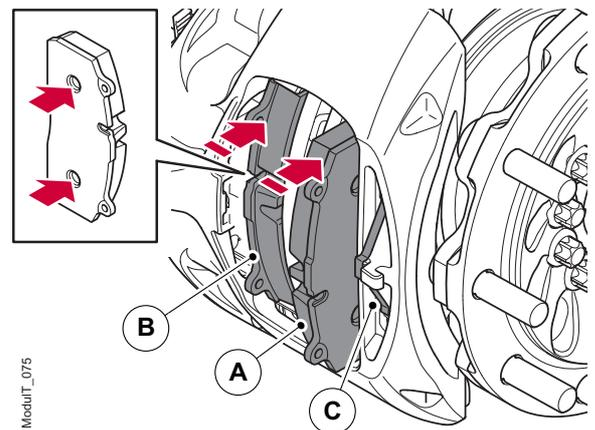

Figure 34. Install the brake pads
3. First install the inner brake pad (B) in the carrier, note that the inner brake pad locates onto the thrust plate on two points, see figure 34. Then fit the outer brake pad (A).
5. Install the new spring bracket (C) into the calliper and ensure it is seated in position correctly.